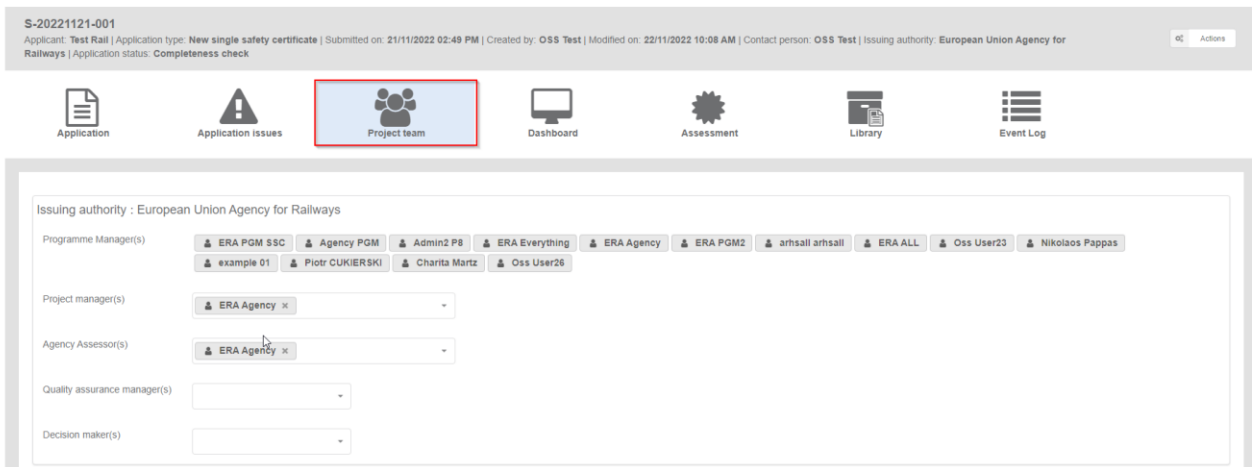

Figure 51: Project team page
The Programme Manager (PgM) is responsible to assign the assessment team of their organisation, either as AE or as an NSA. Initially the PgM receives a notification of the new application. At the same time, a Task is created and displayed in “My Work” section. Following any navigation path, the PgM must arrive to the “Project team” page (Figure 51) and assign the team members for the application. Later on, through the same page, it is possible to update/change an already assigned team. The specific roles to assign are Project Manager (PM), Assessor (AS), Assuror (AR), Decision Maker (DM), Observer (OB).